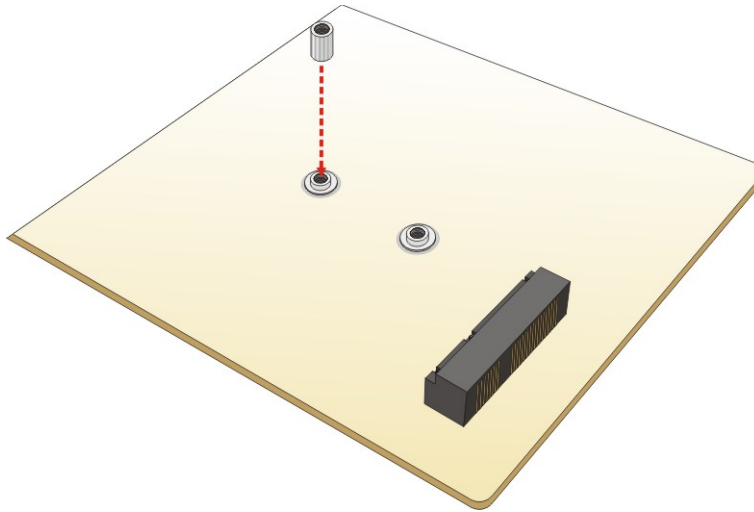

Figure 4-6: Installing the Standoff
Step 3: Install the standoff to the screw hole for the full-size PCIe Mini card. Install the previously removed standoff to the screw hole for the full-size PCIe Mini card (Figure 4-6).